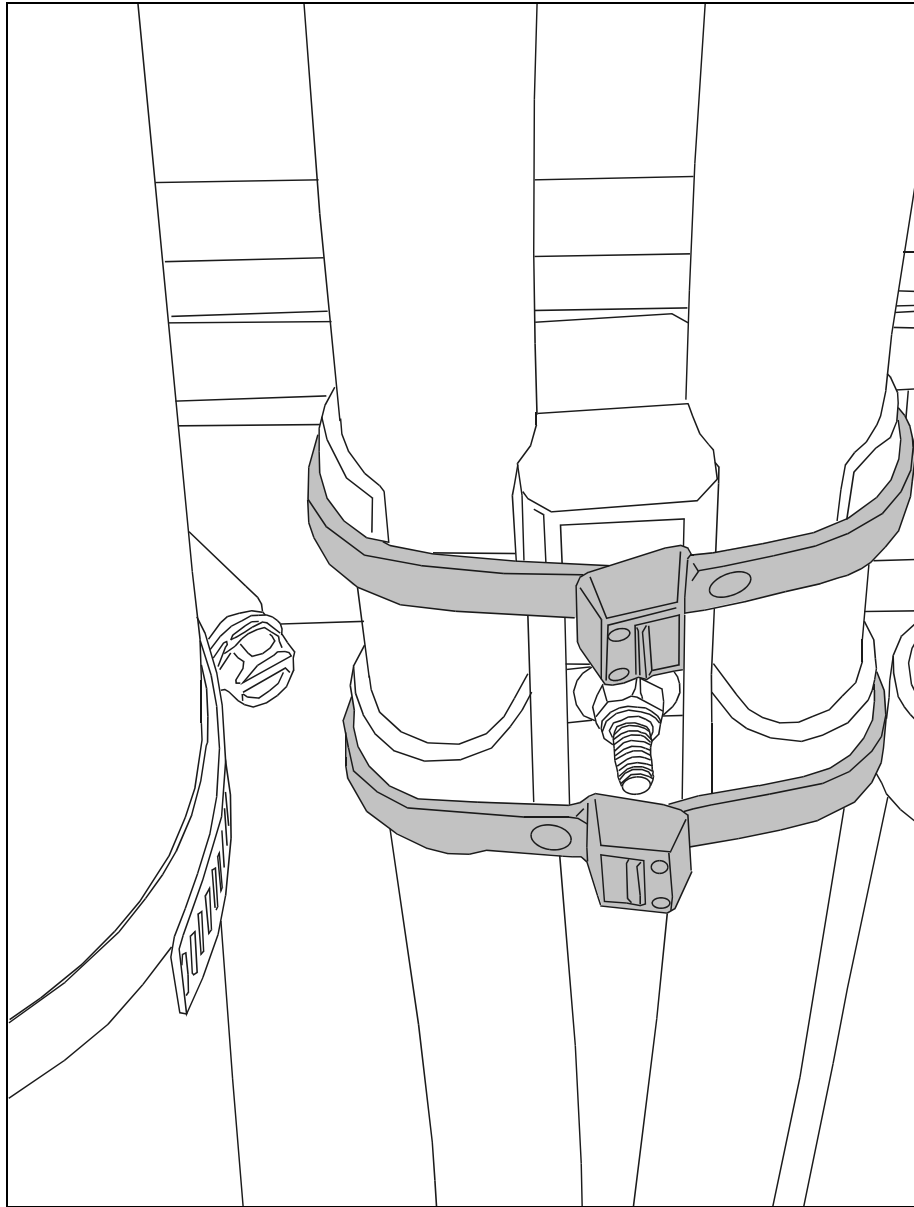

FIGURE 1: INSTALLATION OF NYLON TIES (TYPICAL)
1. Fix pressure hose to supports using nylon ties (Refer to figure 1).